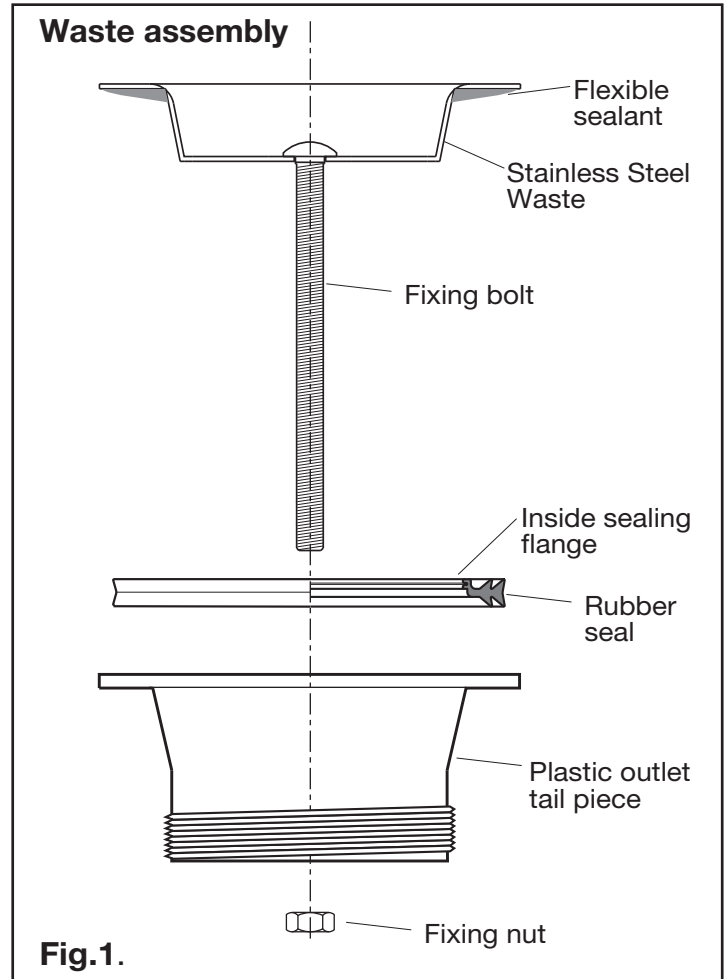

Fig.1.
1. Disassemble product as detailed in **Fig.1**.